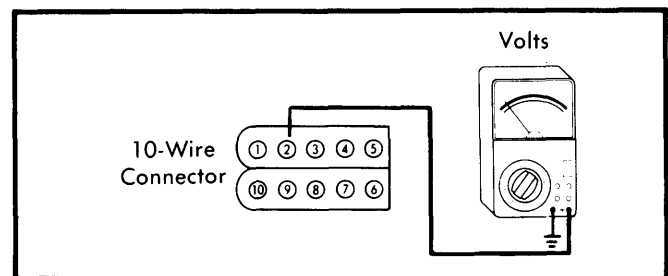

Fig. 9 Voltmeter Hookup for Checking Terminal 2 Voltage
8) If voltage was not at least 5 volts, turn ignition switch off. Disconnect 10-wire connector from computer. Turn ignition switch back to "RUN" position. Connect positive voltmeter lead to terminal 2 of 10-wire connector and negative lead to ground. See Fig. 9. Voltage reading should again be within 1 volt of battery voltage. If not, check wiring between terminal 2 and ignition switch for opens, shorts or poor connections.